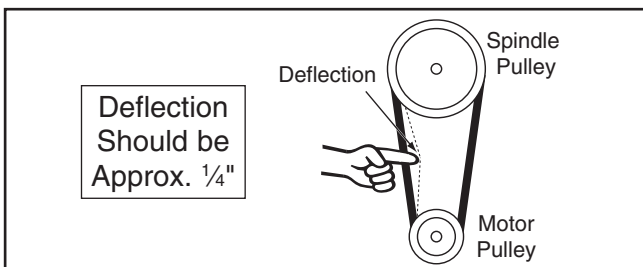

Figure 112. Belt deflection.
6. Tighten the motor mount bolts and check the belt deflection, as shown in **Figure 112**, and re-adjust if necessary.